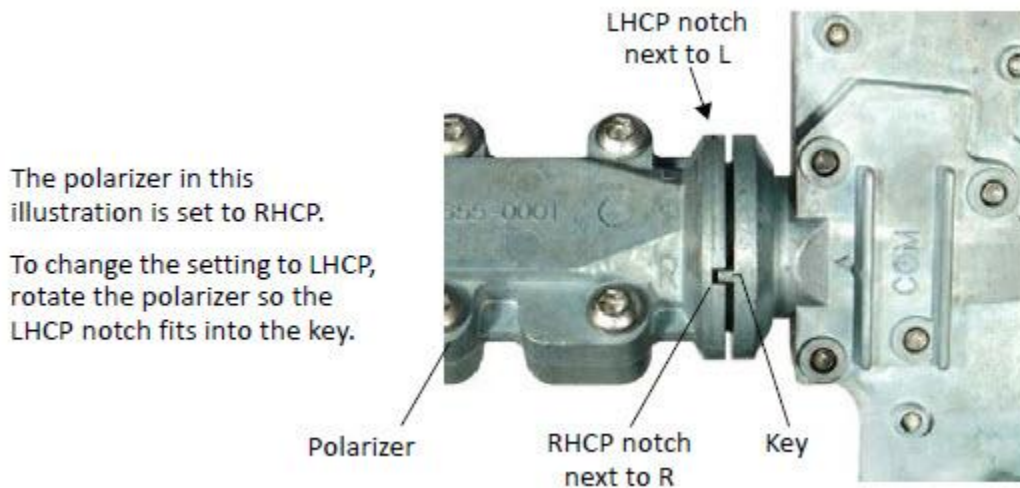

Figure 17: Notches and key for changing the polarization setting
2. Separate the polarizer from the TRIA and reposition it so the marker aligns with L for LHCP or R for RHCP. Refer to Figure 17.